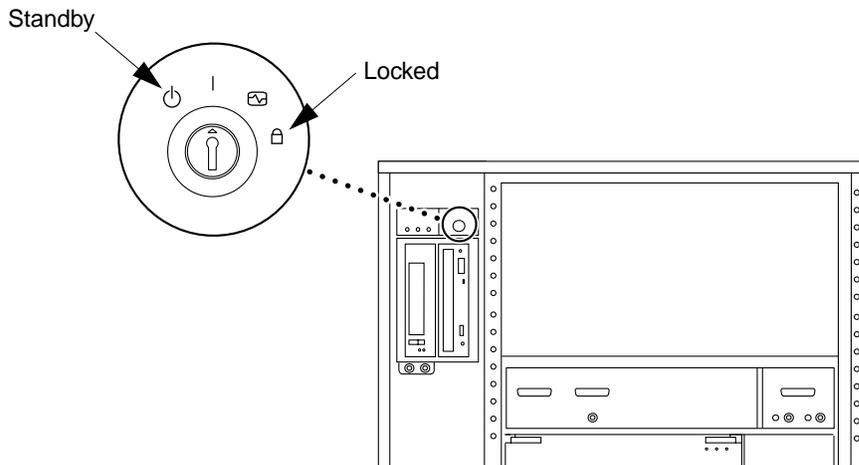

Figure 1-1 Power Key Switch Location
**Note** – Figures 1-1 and 1-2 show a 16-slot system. Systems also come in 4- and 8-slot configurations.
See Figure 1-1.